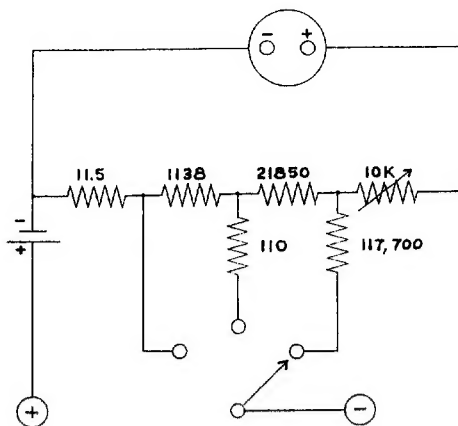

Figure 7
**Ohmmeter:** The MM-1 uses a potentiometer type ohmmeter circuit. In this type circuit, the external unknown resistor is connected in series with a battery and an internal standard resistor. The meter then acts as a voltmeter to measure the voltage drop developed across the standard resistor. The reading obtained is relative to the resistance being measured. To change resistance ranges, the battery voltage, standard resistance and meter multipliers are switched simultaneously. Figure 7 shows the simplified schematic of the ohmmeter circuit. By means of three ranges, the ohmmeter will cover from .2 ohms to 20 megohms.